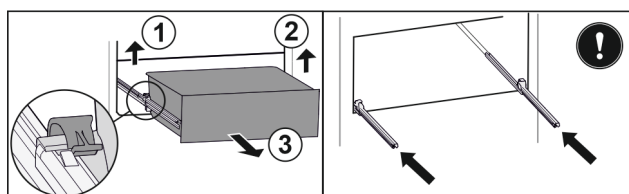

Fig. 183
- Lift left clamp and simultaneously pull drawer forwards on the left. Fig. 183 (1)
- Lift right clamp and simultaneously pull drawer forwards on the right. Fig. 183 (2)
- Remove drawer to the front. Fig. 183 (3)